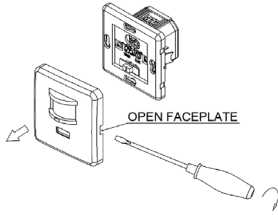

Fig.1
- Unload the faceplate of sensor and adjust the time and LUX knob.(refer to figure 1)